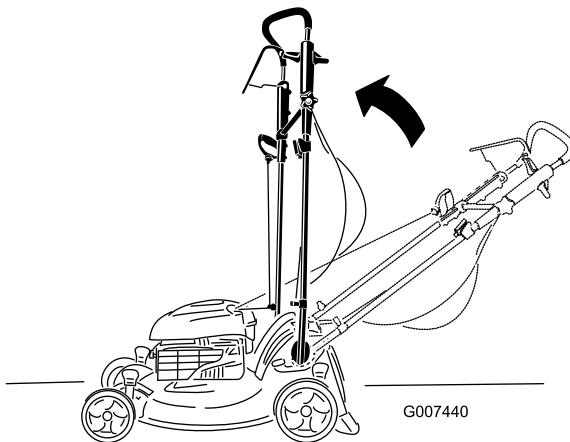

Figure 58
- Move the handle to the upright position (Figure 58).